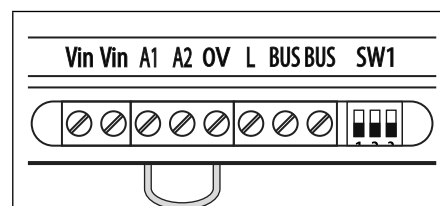

Fig. 40
2. Short out the auxiliary terminal **A1** to the **0V** terminal with a piece of link wire, see **Fig.40**.